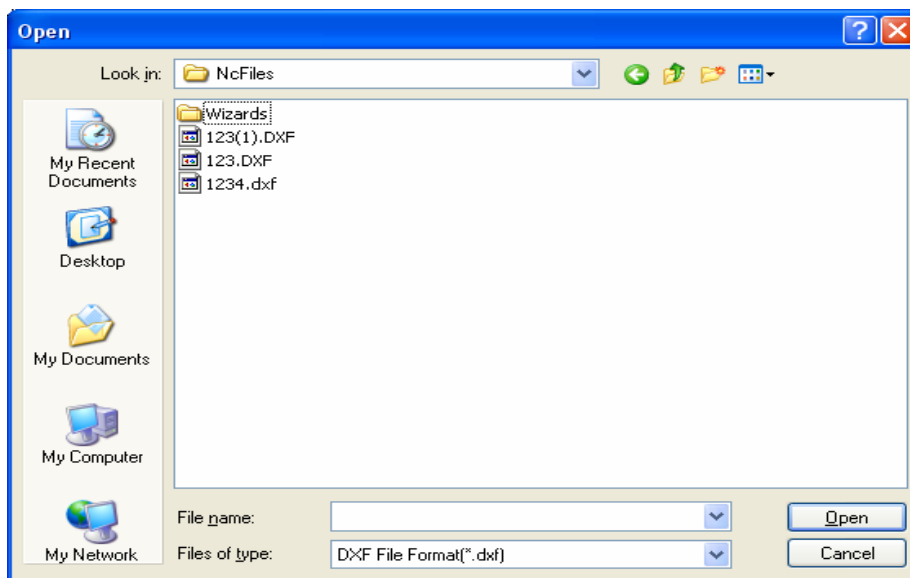

Fig. 10-24 Open file dialogue
- Select [Insert DXF code file] under [Edit] menu, [Opening] dialogue will pop up as Fig.10-24.